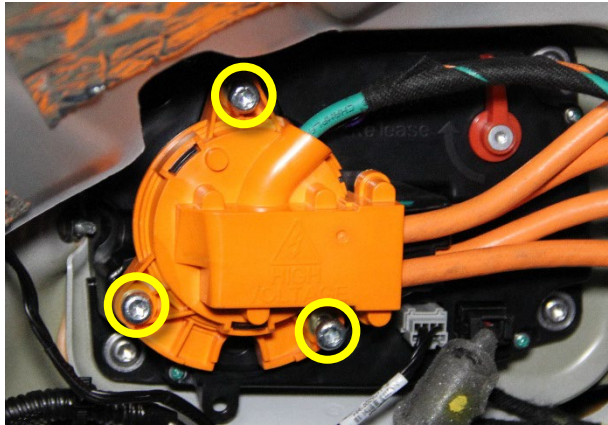

Figure 20
2. Remove the 3 bolts that secure the cable connector assembly to the charge port (Figure 20), and then remove the cable connector from the charge port.